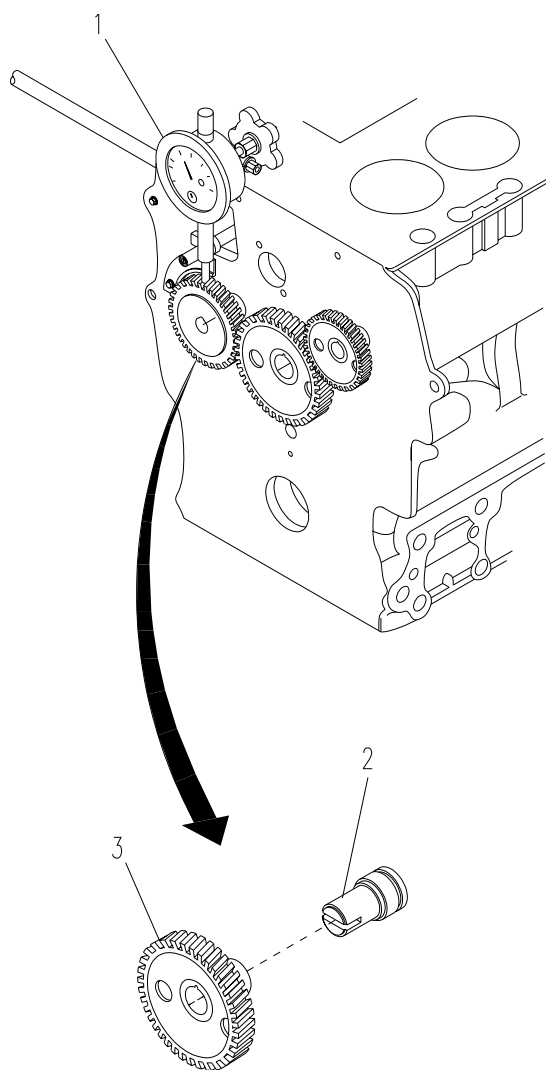

Figure 6-16. Injection Pump Gear
- a. Set up a dial indicator (1, Figure 6-16) with its tip on a tooth of the injection pump gear (3).
- (1) If oil clearance between idle gear shaft and idle gear bushing is within tolerance, replace injection pump gear.
- (2) If oil clearance between idle gear shaft and idle gear is out of tolerance, replace idle gear bushing (para 6.14.) or idle gear shaft (para 6.15.) and retest injection pump gear backlash. If backlash still exceeds 0.0059 in. (0.15 mm), replace injection pump gear.